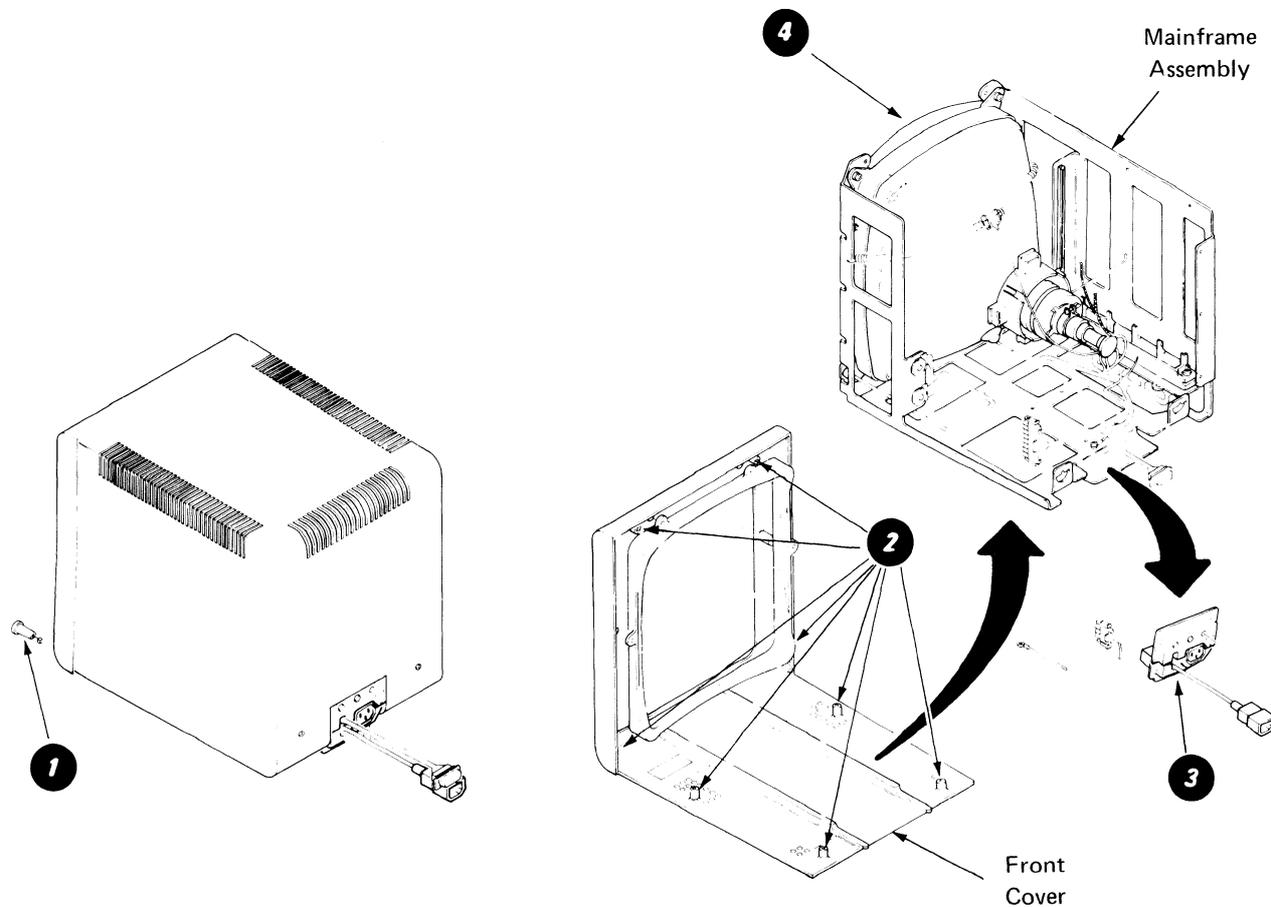

Figure 23 - Mainframe Assembly and Front Cover Removal
2. Remove the brightness control knob **1** (see Figure 23).